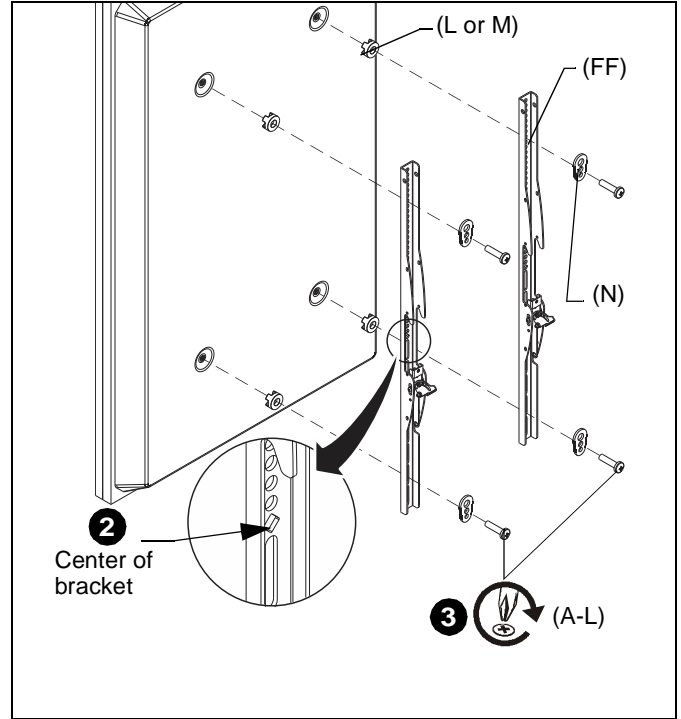
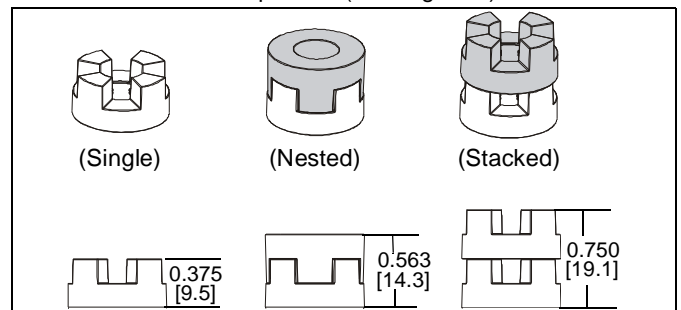

Figure 6
Figure 7
2. Align the center of the interface bracket (FF) with center of screen. (See Figure 6)
3. Select correct screws, spacers (if necessary) and universal washers from the hardware bag (A-N) and attach brackets (FF) to back of screen. (See Figure 6)
**IMPORTANT ! :** The M8 screws do **NOT** require a washer. Use the universal washer (N) only with M4, M5 and M6 screws.
**NOTE:** The nesting spacers (M) may be used separately, or put two together in different configurations to create different size spacers. (See Figure 7)